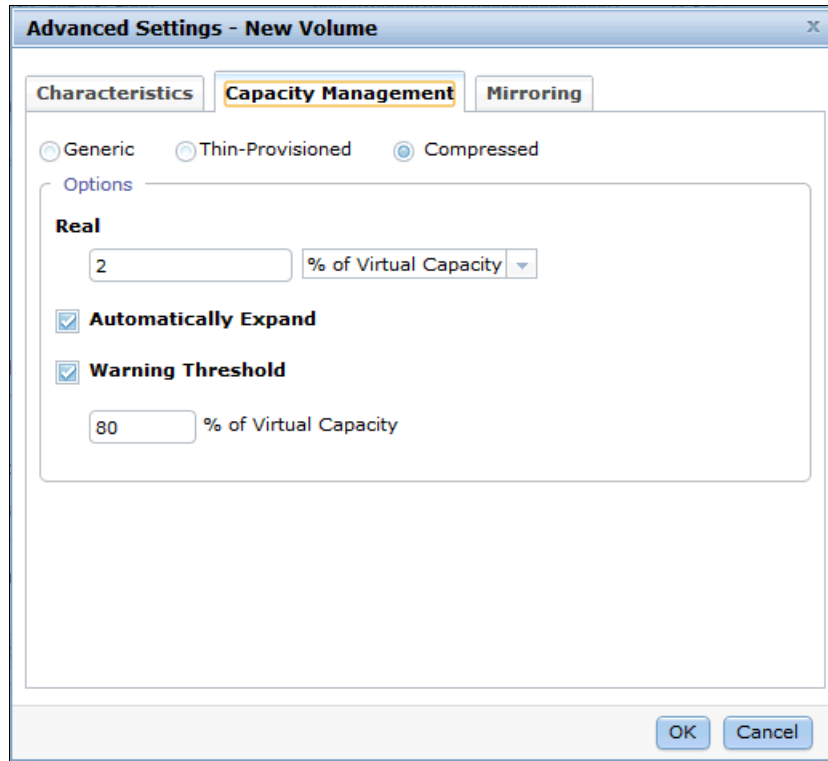

Figure 6-21 Compressed Volume - Advanced properties
3. In Figure 6-20, click **Advanced** and choose capacity management options as shown in Figure 6-21.